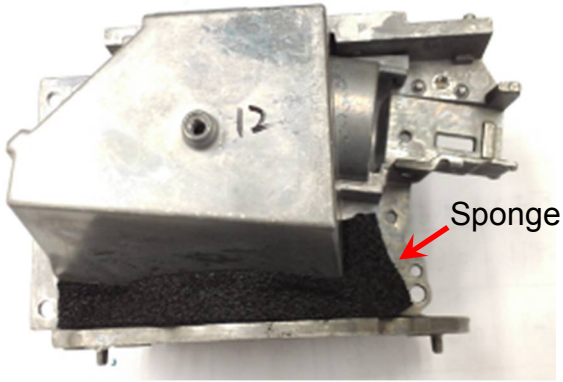

Fig. 3-3
- D. Paste “SPONGE SUB HSG FRONT” on ”HSG ILL SUB Module” outside of sub HSG. (Fig. 3-3)